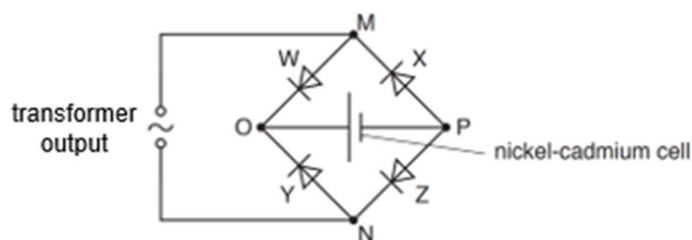

Fig. 6.7
- (iii) The transformer output is connected to four identical diodes W, X, Y and Z which do not conduct in the reverse direction. In the forward direction, each diode conducts when the potential difference across the diode is greater than 0.70 V. This setup, shown in Fig. 6.7, is used to recharge a nickel-cadmium cell with an emf of 1.2 V.